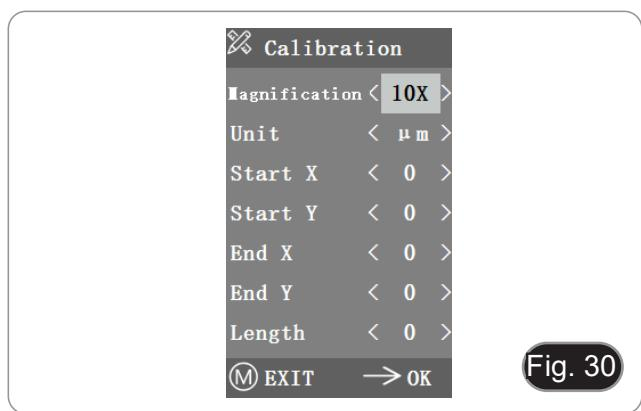

Fig. 30
- After entering the Calibration menu, the dialogue box in Fig. 30 appears.